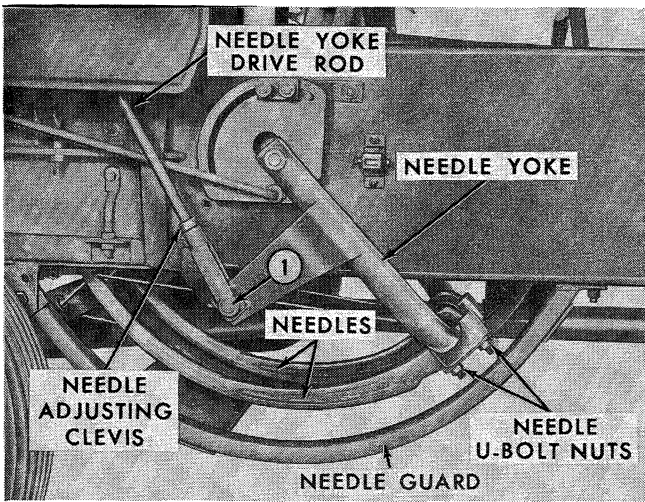
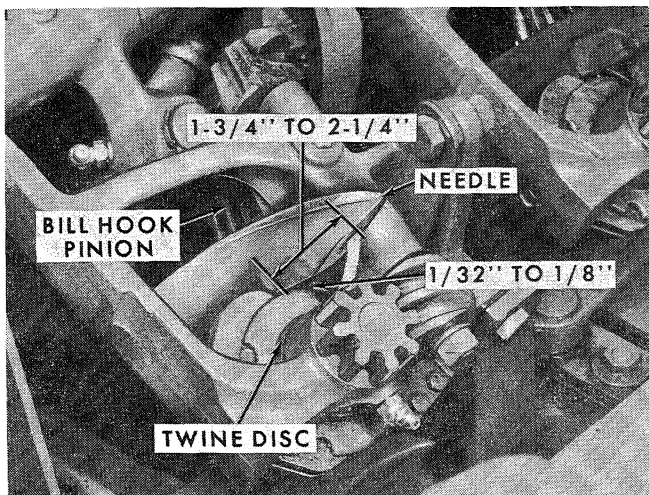

Figure 49
Figure 50
2. Turn the flywheel counterclockwise until the needles are in their uppermost position, or disconnect the needle yoke drive rod at (1), Figure 49, to allow the yoke to swing freely while making the needle adjustment.
3. The clearance between the needles and the bill hook pinion, Figure 50, should be such that the needles just clear the pinion. To adjust, loosen the needle U-bolt nuts, Figure 49, and slide the needles to the right or left to obtain the proper clearance. Left and right needle movement is limited by the width of the slot in the yoke end of the needles, as the needle U-bolts are welded to the yoke. Check step 4 before tightening the U-bolt nuts.
4. The clearance between the needles and the twine discs should be $1/32''$ to $1/8''$, as shown in Figure 50. To bring the needles closer to the twine discs, loosen the rear nuts on the needle U-bolts, and tighten the front nuts. To increase the distance, loosen the front nuts and tighten the rear nuts. When the adjustment is completed, recheck the needle U-bolt nuts to make certain they are tight.
5. The proper height of needle travel is determined by measuring the distance from the twine discs to the bottom of the needle eyes. This distance should be from $1-3/4''$ to $2-1/4''$ with the needles in their uppermost position, as shown in Figure 50. To adjust the height, loosen the jam nut and remove the clevis pin from the needle adjusting clevis shown in Figure 49. Turn the clevis until the correct measurement is obtained, secure the clevis to the needle yoke arm with the clevis pin and cotter pin, then tighten the jam nut.